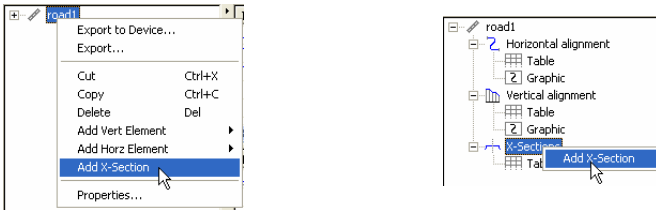

Figure 9-60. Adding X-Section Using Left Panel of the Road tab
- In the left panel, right-click the road or the x-section and click **Add X-Section** (Figure 9-60).